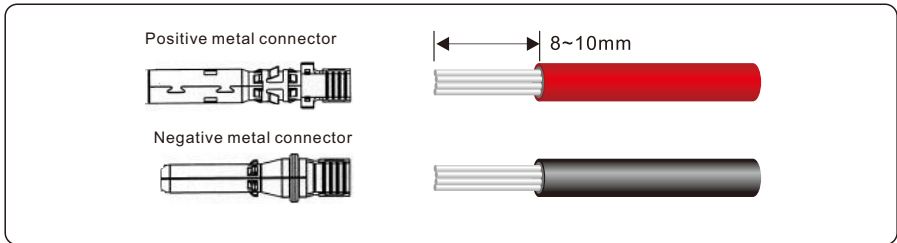

Figure 5.9 Removing insulation layer for DC cable (unit: mm)
**Step 1** Remove an appropriate length of the insulation layer from the positive and negative power cables by using a wire stripper, as shown in Figure 5.9.